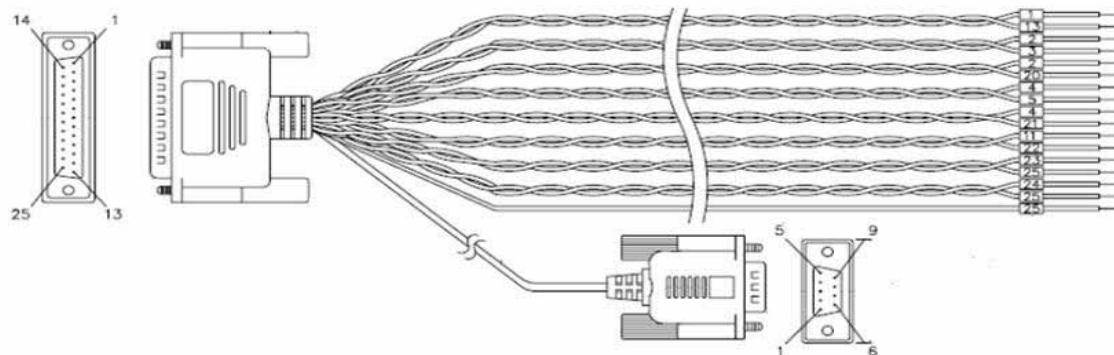

Fig B.1 Pin and Wiring Outlook
- 4) Refer to **Fig B.1, Fig B.2** and the **table with cables description** for more information on how the cables and pins are connected correctly.